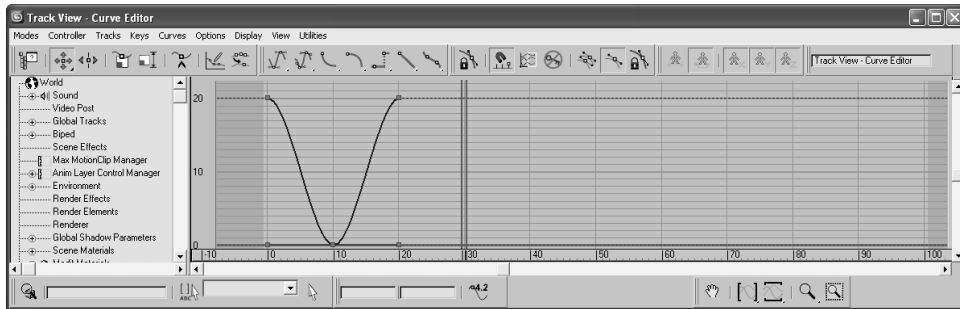

Figure 8.12
1. With the ball selected, in the main menu, choose Graph Editor → Track View → Curve Editor. In Figure 8.12, the Curve Editor displays the animation curves of the ball so far.